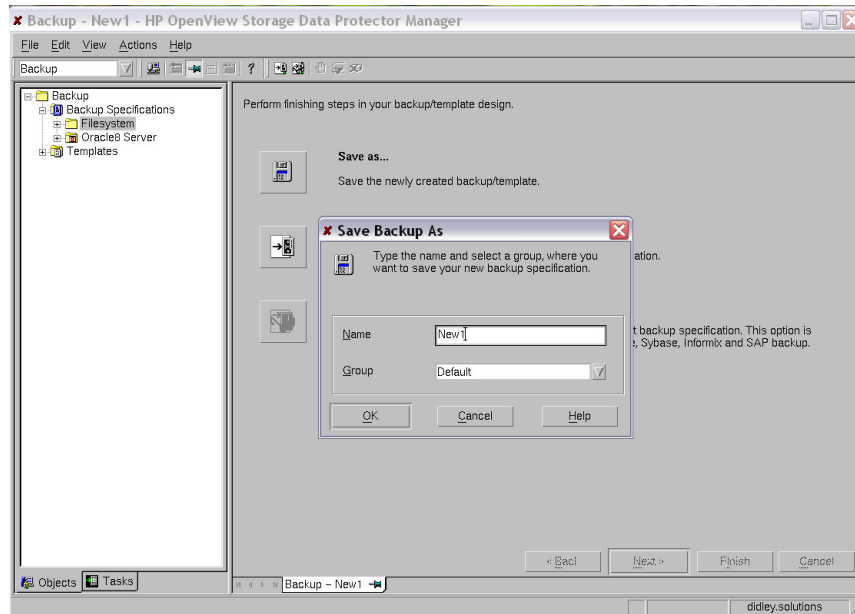

Figure 16: Saving the backup specification
- Save the backup specification by clicking the **Save as** icon in the **Perform finishing steps** window (see Figure 16).